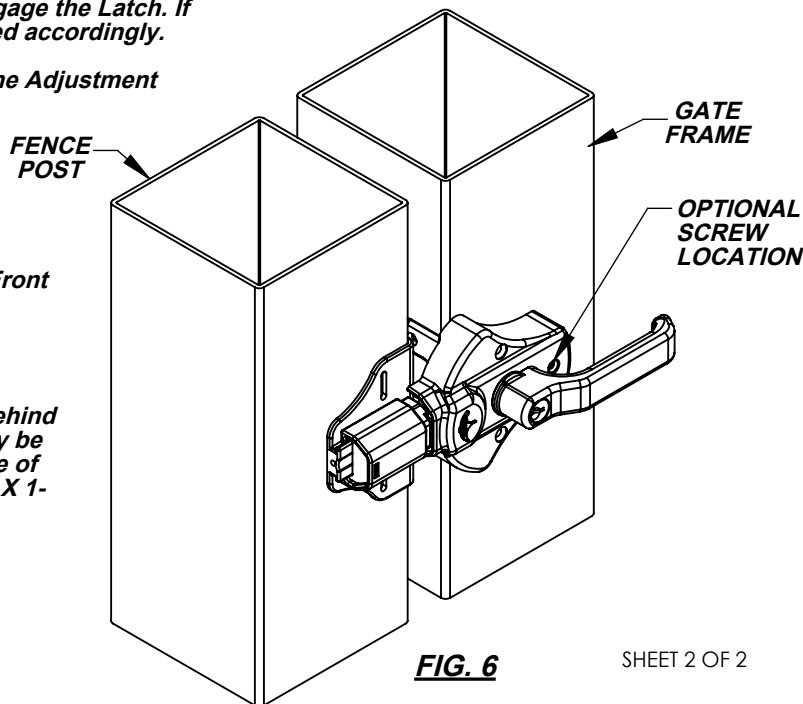

FIG. 6
STEP 5 (Fig. 6)
- The Front Housing contains an optional screw location behind the handle (see Fig. 6). On wider vinyl Gate Frames it may be desirable to install this additional screw to eliminate some of the flex in the Gate Frame. The screw pack contains a #8 X 1-3/4" self-drilling screw specifically for this hole.